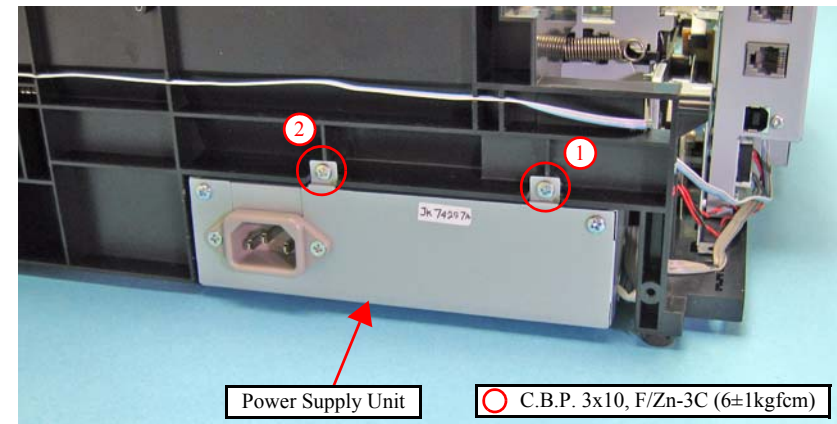

Figure 4-29. Removing the Power Supply Unit (2)
- Tighten the screws in the order given in Figure 4-29.